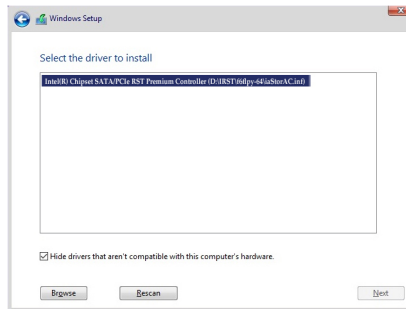

Figure 1
When a screen as shown in Figure 1 appears, select **Intel(R) Chipset SATA/PCIe RST Premium Controller (I) \IRST\6f1py-x64\ich9mAc.inf** and click **Next** to load the driver and continue the OS installation.